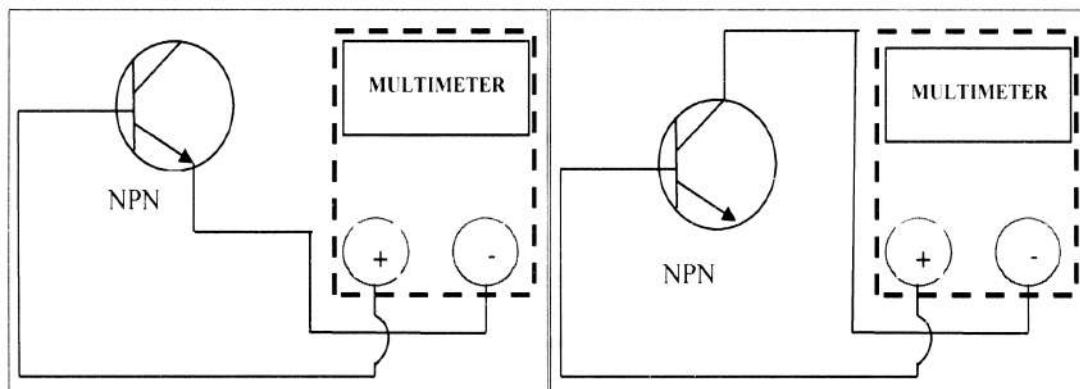

Fig. 2
- (i) Connect the positive probe of multimeter to the base terminal of the transistor and negative or common probe to the either emitter terminal or collector terminal (as shown in Fig. 2). In both the cases forward biasing condition will satisfy and multimeter will show some reading.